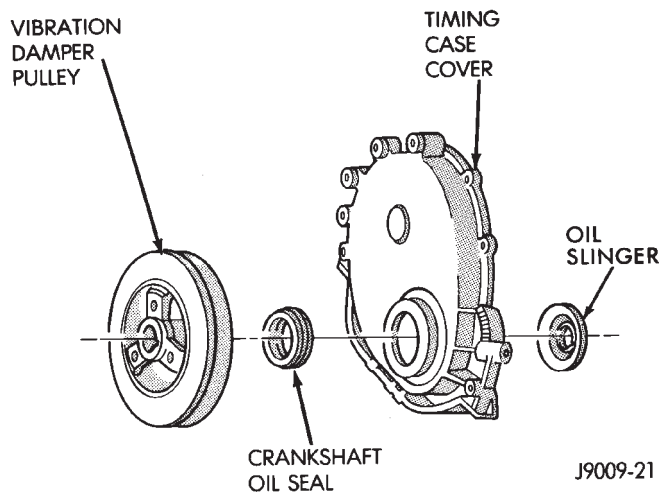

Fig. 4 Timing Case Cover Components
- (1) Disconnect negative cable from battery.
- (2) Remove the vibration damper (Fig. 4).
- (3) Remove the fan and hub assembly and remove the fan shroud.
(4) Remove the accessory drive brackets that are attached to the timing case cover.
(5) Remove the A/C compressor (if equipped) and generator bracket assembly from the engine cylinder head and move to one side.
(6) Remove the oil pan-to-timing case cover bolts and timing case cover-to-cylinder block bolts.
(7) Remove the timing case cover and gasket from the engine. Make sure the tension spring and thrust pin do not fall out of the preload bolt.
(8) Pry the crankshaft oil seal from the front of the timing case cover (Fig. 4).